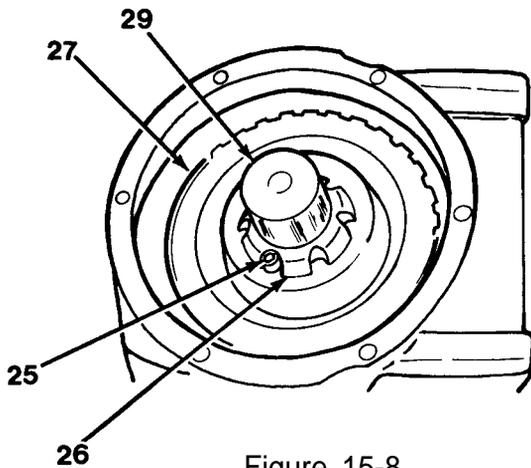
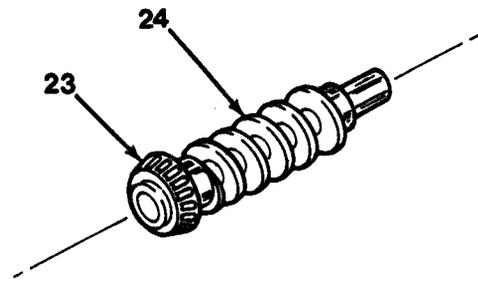

Figure 15-8
Figure 15-7
7. Press worm gear (27) onto output shaft (29, Figure 15-8) with gear hub facing up.
8. Install nut (26). Torque nut (26) to approximately 5 lb-ft (6.8 N•m).
9. Install capscrew (25). Torque capscrew (25) to 15 lb-ft (20 N•m).
10. Press one of two bearing cones (23) on worm (24, Figure 15-7).